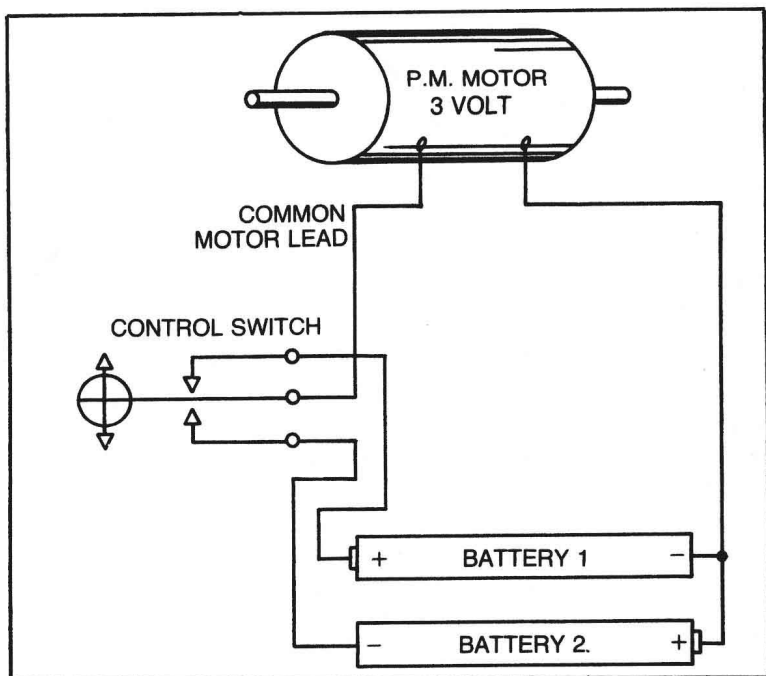

Fig. 1-4. Reversing direction of a pulse-modulated (PM) electric motor.
What must be done to make the *electric* motor reverse its direction of rotation? The idea also will apply to the reversing of an actuator. In Fig. 1-4, the electric motor is known as a permanent magnet (PM) type. There are other types, but with this kind you simply have to reverse the battery connections to make it run in the opposite direction.